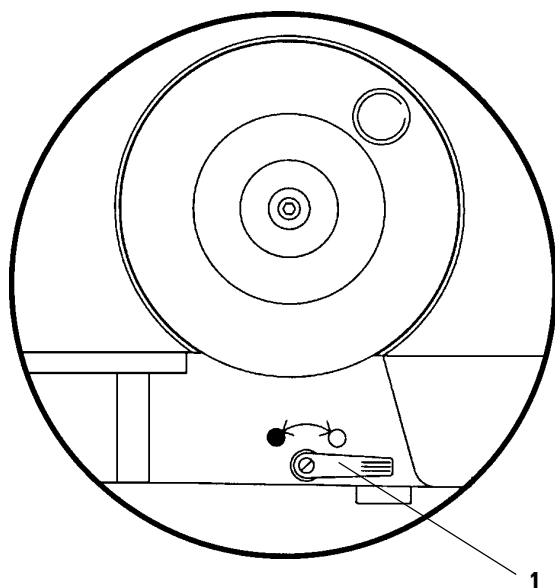

Fig. 5.1
The handwheel can be locked in any position with the locking lever (1) on the right side of the microtome base plate. The two locking positions of the lever (● = locked; ○ = released) are marked on the microtome base plate (Fig. 5.1)